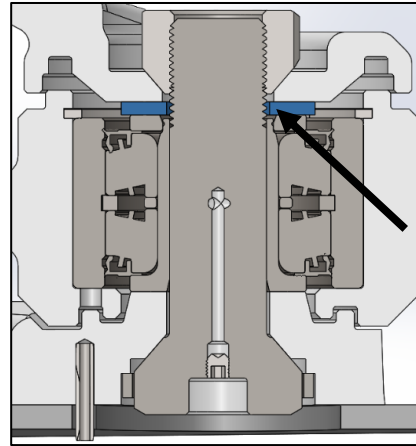

Figure 149
14. The stabilizer has a washer under the stabilizer between the stabilizer arm and inner race of the bearing. This washer goes between the stabilizer and the top of the bearing with the convex side down. Figure 149.